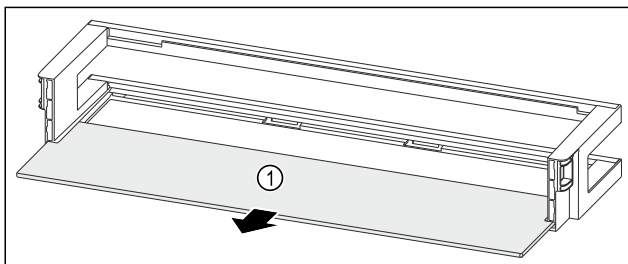

Fig. 117 Door rack with shelf
- ▶ Remove the shelf Fig. 117 (1).